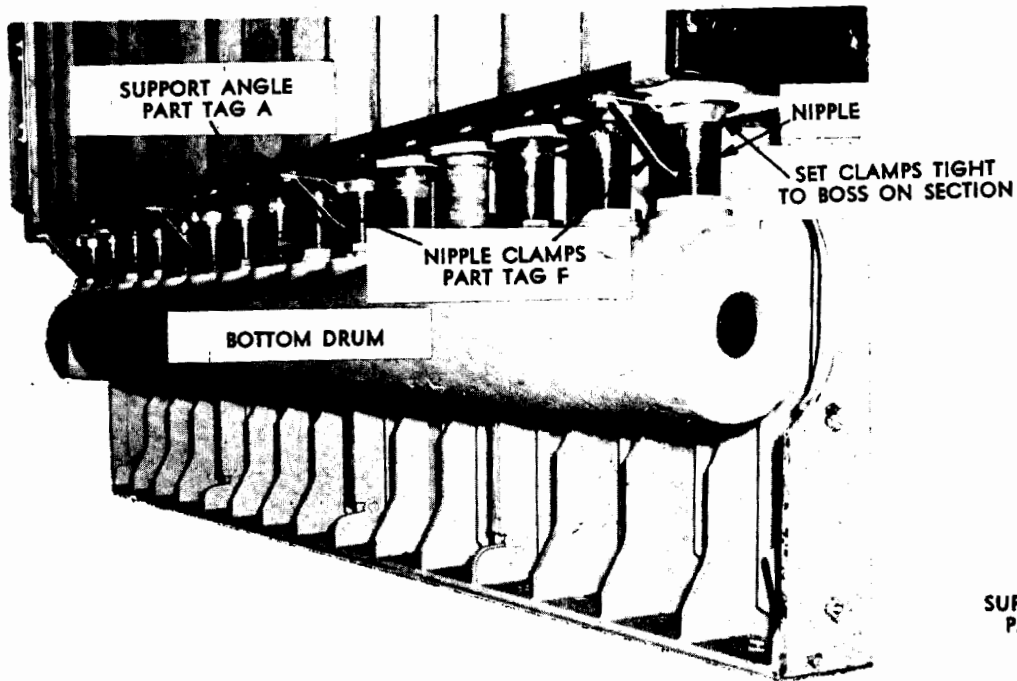

FIGURE NO. 3
4. ASSEMBLY OF BOTTOM FRAMES (SEE FIG. NO. 3)